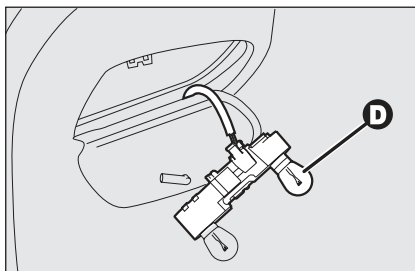

fig. 36
- ☐ remove and replace the burnt-out bulb by pressing it slightly and turning it counterclockwise **fig. 36**: